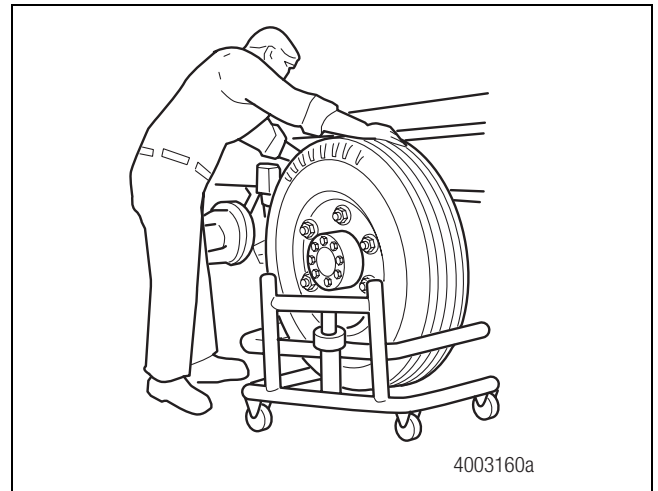

Figure 3.9
3. Remove the tire and wheel assembly. Figure 3.9.